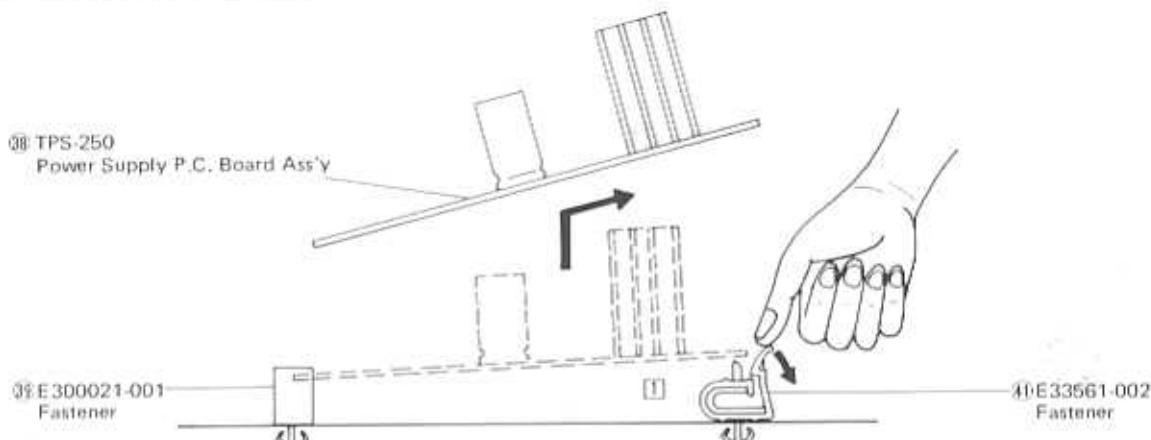

Fig. 5
- Press the Fastener [1] of Fig. 5.
- Pull the C.B. as shown Fig. 5 out.